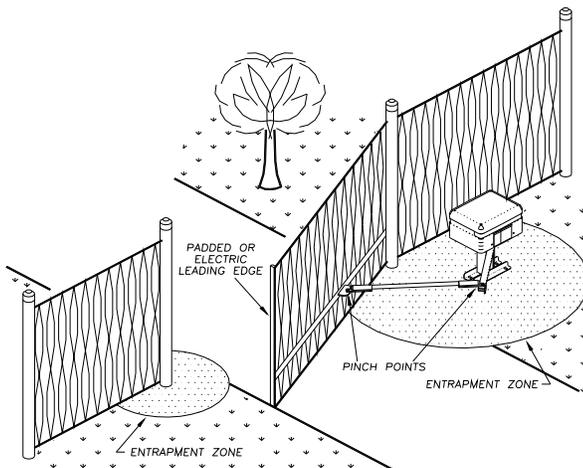

Figure 3: Entrapment Zones and Pinch Points
- Use the illustration at left (Figure 3) and the information and diagrams on pages 11, 12, and 13 to minimize the risk of injury in your design of the swing gate operator system. **IDENTIFY THE ENTRAPMENT ZONES AND PINCH POINT AREAS IN YOUR GATE.** Design the gate installation to minimize the risk of entrapment in these areas. Install additional safety equipment such as edge sensors and photocells to further minimize risk. All entrapment zones are required to be protected.
- **Entrapment Zones:** Design in personal entrapment protection devices to protect people from entrapment in the zones shown in Figure 3 and the information and diagrams on pages 11, 12, and 13.
- **Pinch Points:** Use protective measures (guards, padded edges, etc.) to protect people from the pinch points shown in Figure 3 and the information and diagrams on pages 11, 12, and 13. Attach roller guards in cantilevered gate systems to minimize the risk of hands being caught between the top of the gate and the roller.
- SWING GATES HAVE THE POTENTIAL HAZARD OF HANDS AND FINGERS BEING PINCHED between the gate edge and the post to which the gate is mounted. It is recommended that the hinges be mounted so that this opening increases as the gate swings open. **PROTECT THIS "PINCH POINT" SO THIS HAZARD IS MINIMIZED.** See Figure 3.
- CONSIDER ALL OTHER "PINCH POINTS" IN YOUR DESIGN of the gate system. Observe the arm as it opens and the two arm pieces swing past each other. Use protective measures to reduce hazards at this location. Restrict access to the arm motion. See Figure 3.